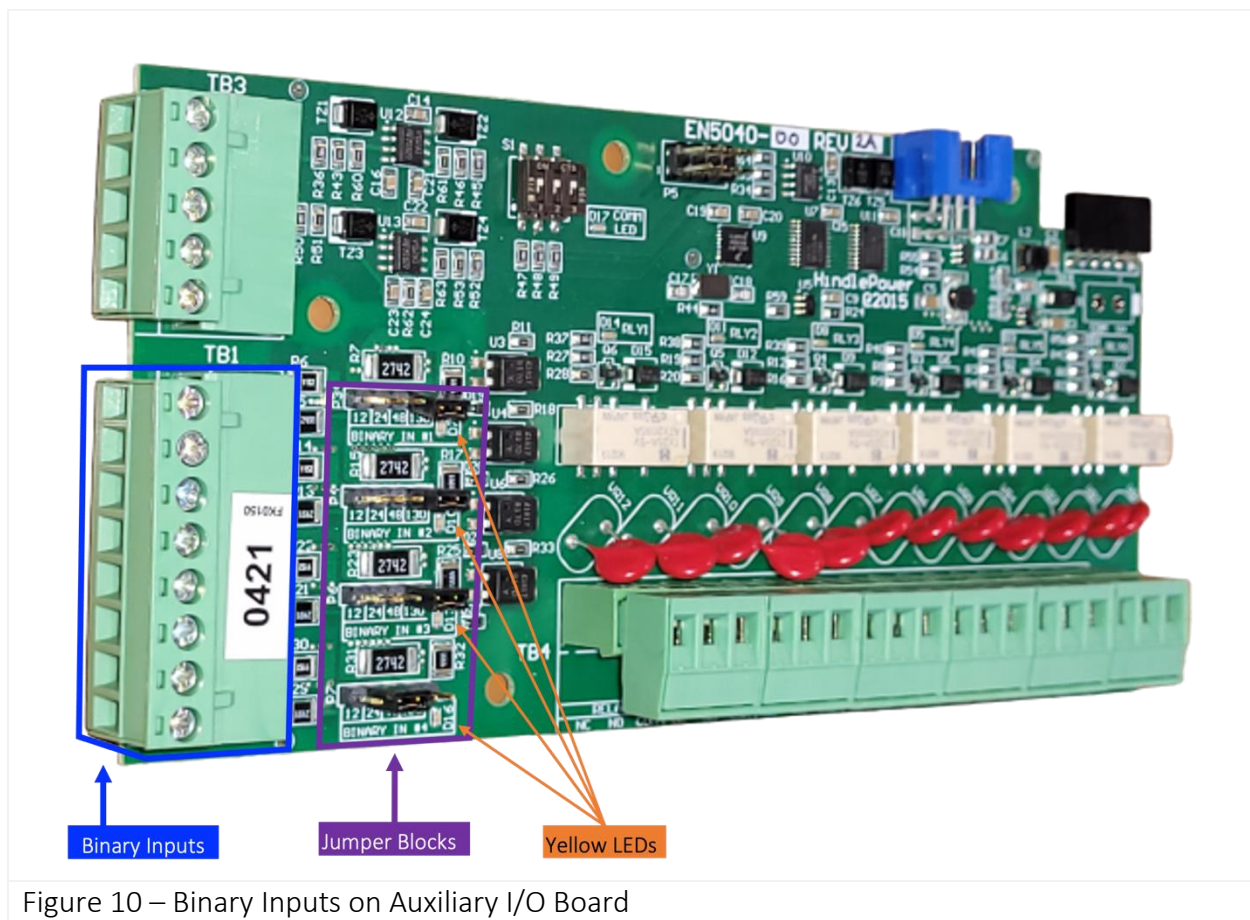

Figure 10 – Binary Inputs on Auxiliary I/O Board
The four (4) Binary Inputs are optically isolated from ATevo and each other. They can be configured via jumper selection to accept input voltages of 12Vdc, 24Vdc, 48Vdc, or 130Vdc (factory-default). Each Binary Input has an associated yellow LED and a jumper selection block (**Figure 10**). The LED serves as a debugging aid as it will illuminate when the associated Binary Input is high (in the 'ON' state).